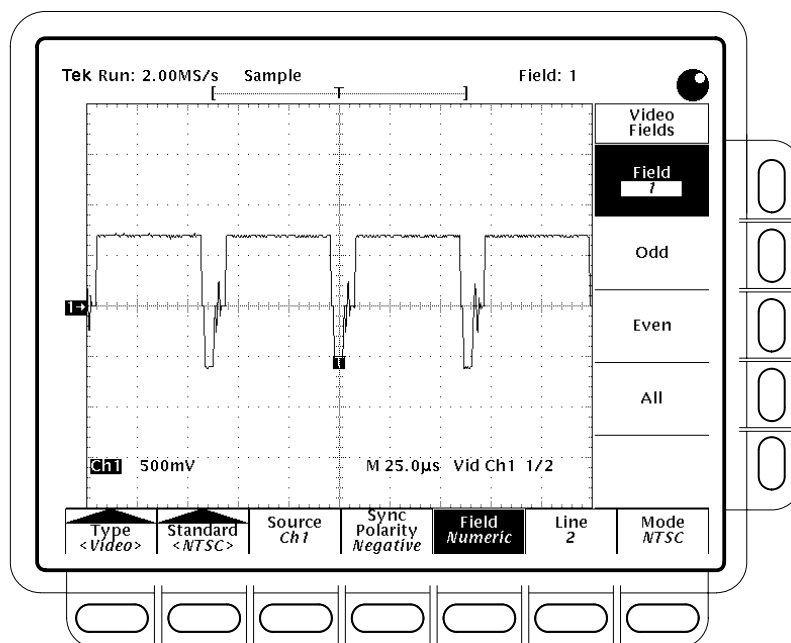

Figure 1-3: Main Trigger Menu — Field
**Field** Specify the field to trigger on with the **Field** option (see Figure 1-3).